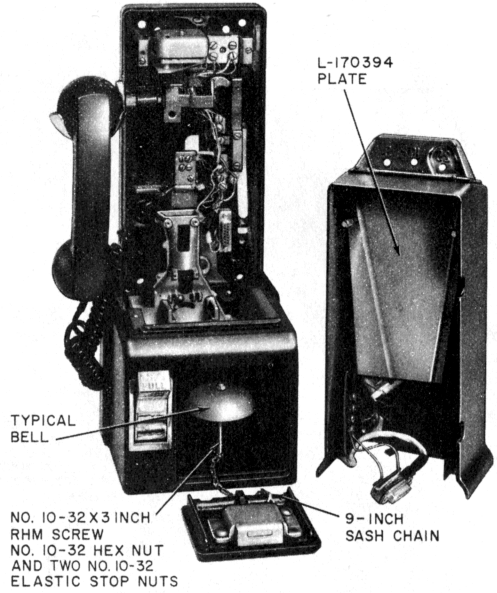

Fig. 4—Decorator Set Showing D-180573 Kit of Parts Installed
2.06 A D-180573 Kit of Parts completes the redesign of the set (Fig. 4) as follows: